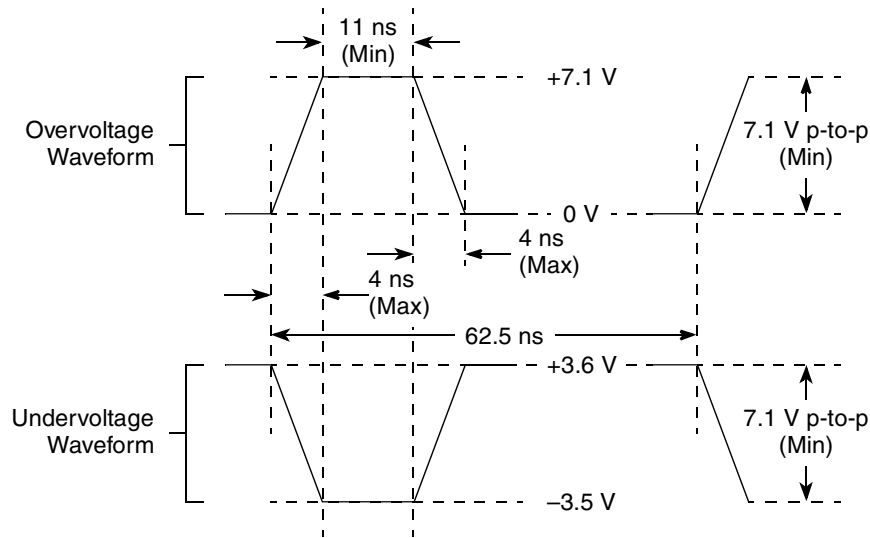

Figure 3. Maximum AC Waveforms on PCI interface for 3.3-V Signaling
- $OV_{IN}$  on the PCI interface may overshoot/undershoot according to the PCI Electrical Specification for 3.3-V operation, as shown in Figure 3.
Figure 3 shows the undershoot and overshoot voltage of the PCI interface of the device for the 3.3-V signals, respectively.